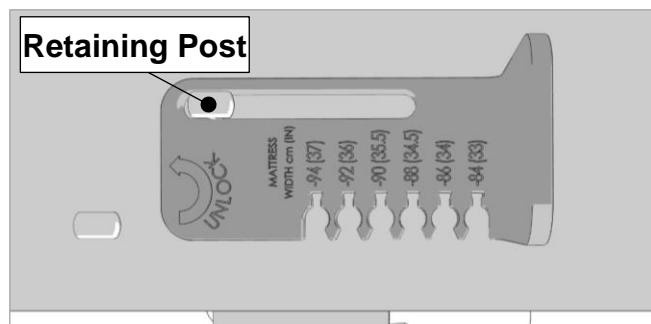

Figure 8.14
15. Place the Mattress Guide over the retaining post as shown in Figure 8.14.